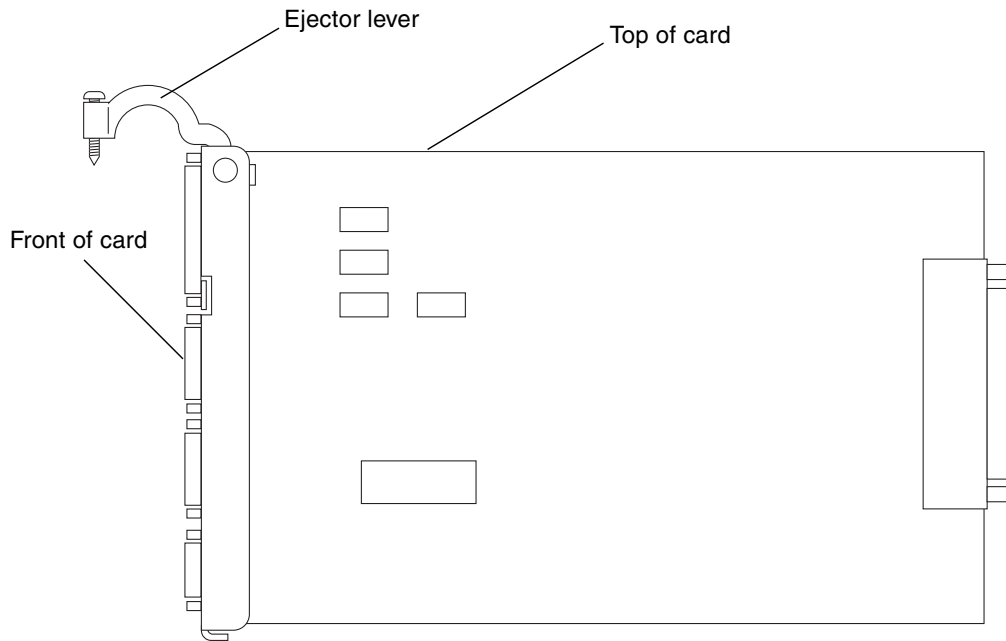

FIGURE 6-14 Proper Orientation for the Ejector Lever for Netra CT 410 Server Host CPU Front Transition Card
2. **Flip the ejector lever up to a 90-degree angle** (FIGURE 6-14).